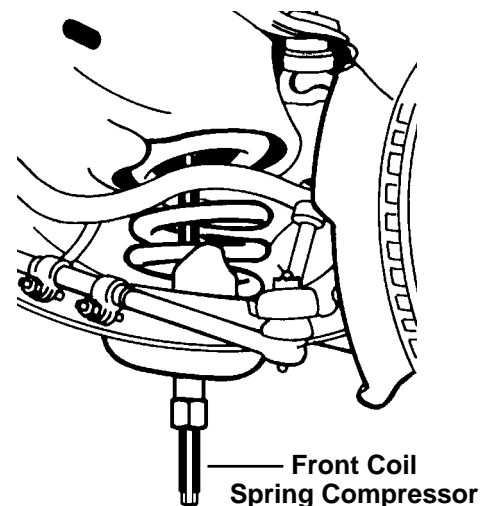

Figure 2
11. Place the thrust bearing (#2) on the threaded rod, and follow with the barrel nut (#1), threaded end first. Figure 2 shows the tool correctly assembled on the front coil spring.